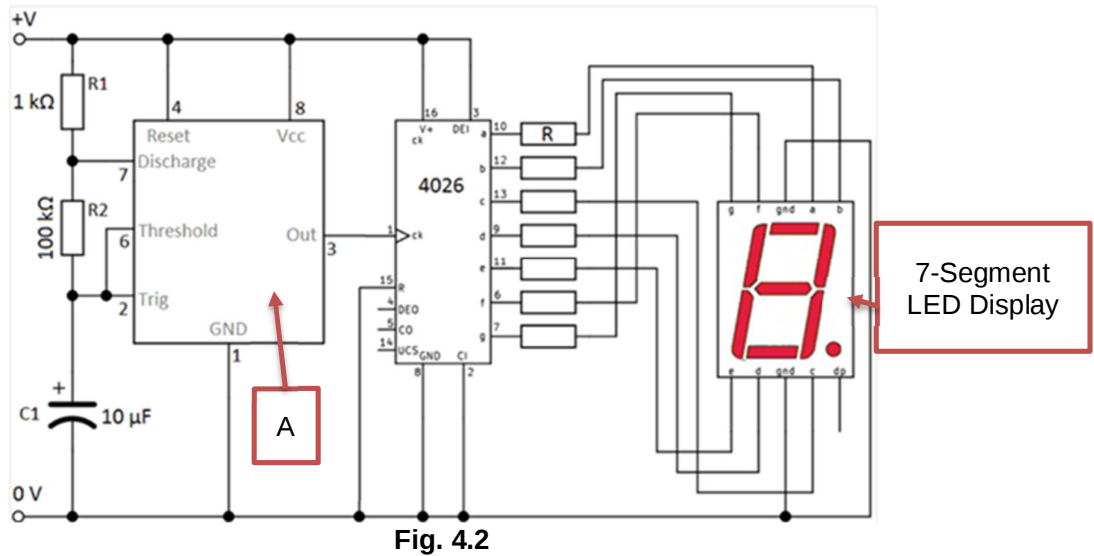

Fig. 4.2
- (d) Fig. 4.2 shows a circuit component that can be used to display the number of minutes the automated fan has been switched on.
- (i) Identify the component labeled as IC Chip A in Fig. 4.2.
- (ii) Explain the function of the 4026 IC chip in the circuit in Fig. 4.2.